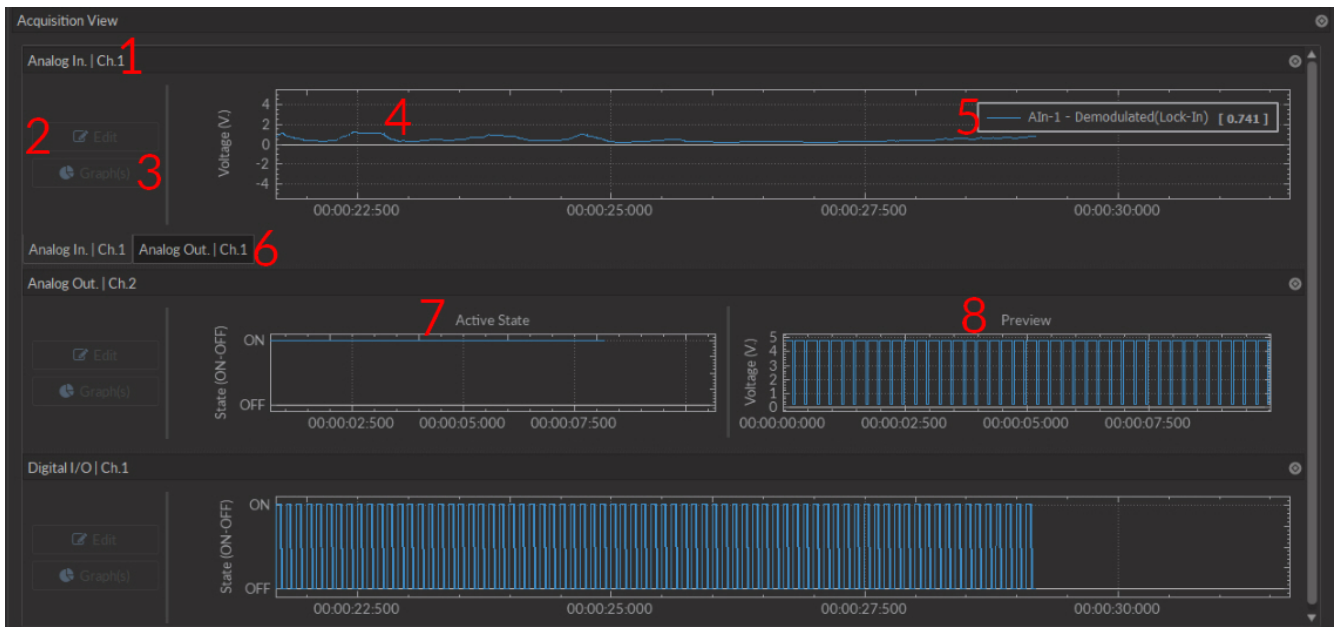

Figure 3.21: Acquisition View Box
1. The **Channel name** is located on the upper left of the **Channel box** (Fig. 3.21), identifying the type of channel and its number, corresponding to that on the console. This name can be modified in the **Graph options** window.
2. The **Edit** button (Fig. 3.21) allows the editing of channel parameters, opening the channel configuration windows. For further information, see section 3.1.1.
3. The **Graph(s)** (Fig. 3.21) button opens the **Graph Options** window.
4. The **Graph** (Fig. 3.21) box displays the graph of a channel, with **Voltage** or **State** as the vertical axis and **Time** as the horizontal axis. Double-clicking either axis will open a **Change Axis Range** window that allows the axis limits to be changed, as in the **Zooming Menu**. Any changes done on a horizontal axis will change the axis limits for each channel.
5. The **Instant values** box (Fig. 3.21) can be activated by right-clicking the **Input graph** box and selecting **Show instant values**. This box shows the current value detected by the console for each trace on the selected channel. This box cannot be activated on **Preview graphs**.
6. The **Channel tabs** (Fig. 3.21) appear in certain input modes (such as **Interleaved** and **Lock-in**) where the input automatically sets the output values on separate channels. It is possible to create a **Channel tab** by undocking one channel and moving it above another until it turns blue, then releasing it.
7. Analog output channels display an **Active state** graph (Fig. 3.21). This graph displays whether the channel is outputting a signal (On, $V \neq 0$) or not (Off, $V = 0$).
8. Output channels display a **Preview** graph (Fig. 3.21), showing a preview of the pulse sequence.